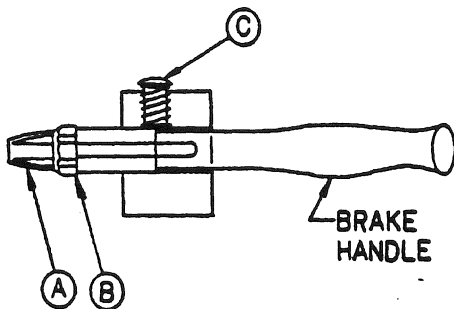

fig. 18
5. Once the machine is positioned over the stump, squeeze the brake handle to lock the wheel. The brake locks one wheel only and allows you to make a sweeping motion with the cutter head. You can hold the brake on with one hand or lock it in position by depressing the brake handle lock (item C, Figure 18). To unlock the brake, simply squeeze the lever and release.